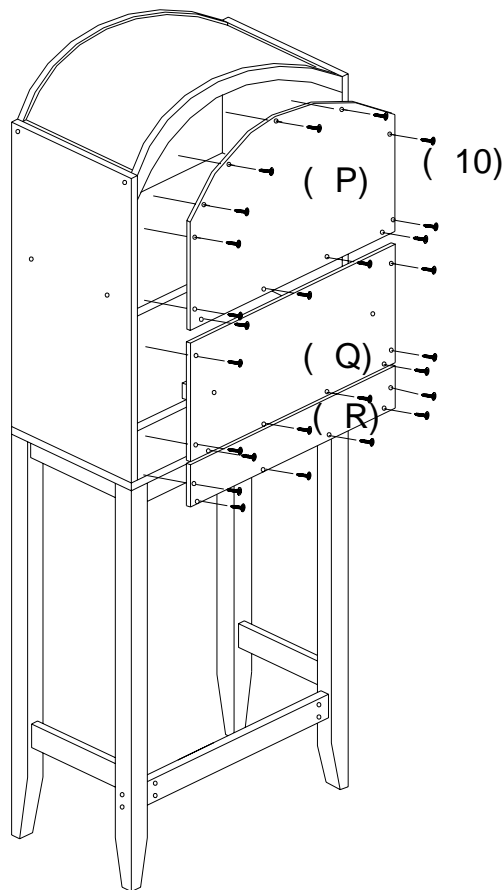

FIGURE 5
- ATTACH UPPER BACK PANEL (P) INTO SLOTS ON PARTS (A, B, C, D). INSERT PAN HEAD WOOD SCREWS ($\text{\O}2.6\text{X}10\text{mm}$) (10) THROUGH PREDRILLED HOLES ON UPPER BACK PANEL (P) AND TIGHTEN INTO CORRESPONDING HOLES ON REAR EDGES OF PARTS (A, B, C, D). ASSEMBLE MIDDLE AND LOWER BACK PANELS (Q, R) IN SAME MANNER. (AS SHOWN IN FIGURE 5)